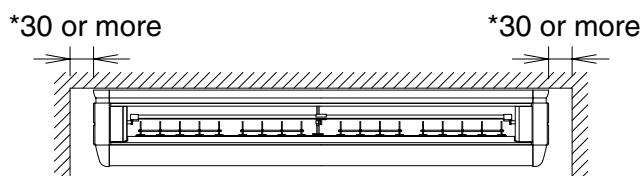
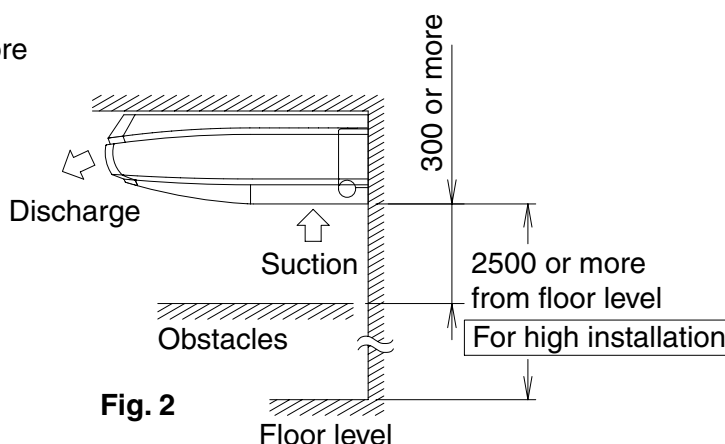

Fig. 1
Fig. 2
(1) Select the installation location that meets the following conditions and get approval of the customer.
- Where a space sufficient for installation and service can be ensured. **(Refer to Fig. 1 and Fig. 2)**